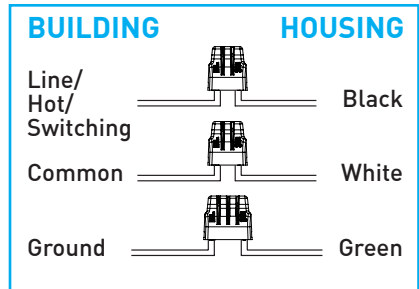

Fig.14
Feed structured building wires through knockout, secure to corresponding connector "Fig.14" and tighten strain relief.
**Quick connectors** provided for line / mains voltage connection: black (hot), white (common) and green (ground) "Fig.14".